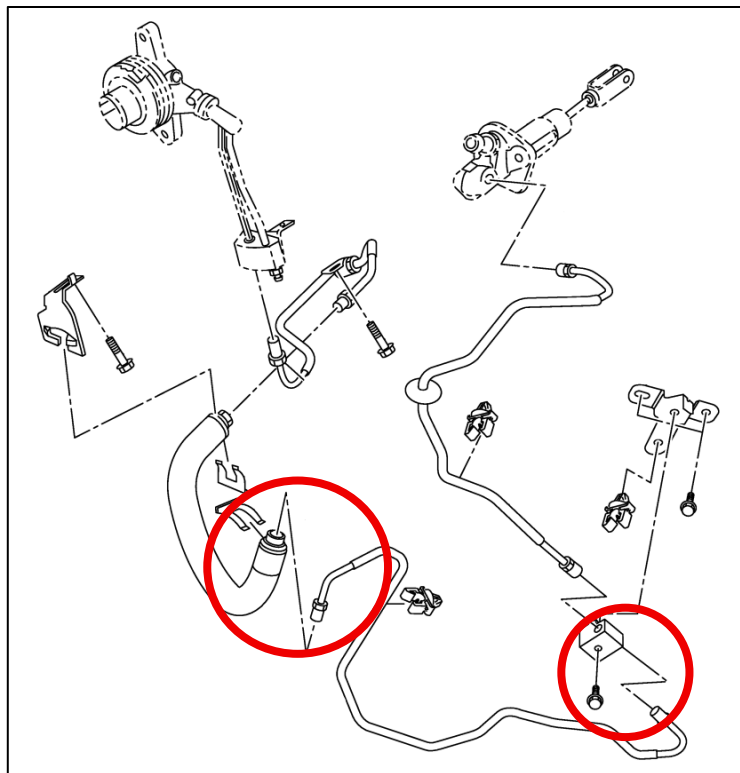

Figure 4
7. Unthread the Lower Clutch Hard Line from the Connecting Block and the Clutch Hose. *Figure 4.*